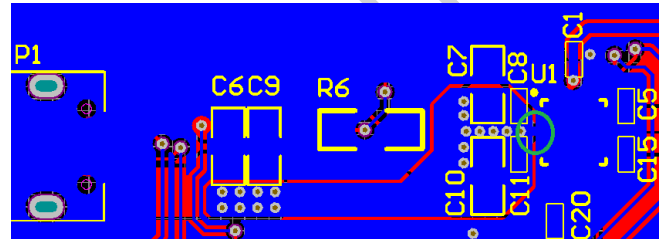

Fig7. Bottom Layer
- Separate the analog-ground plane from the power-ground plane, and use only one point to join them. Please refer to Figure 7.